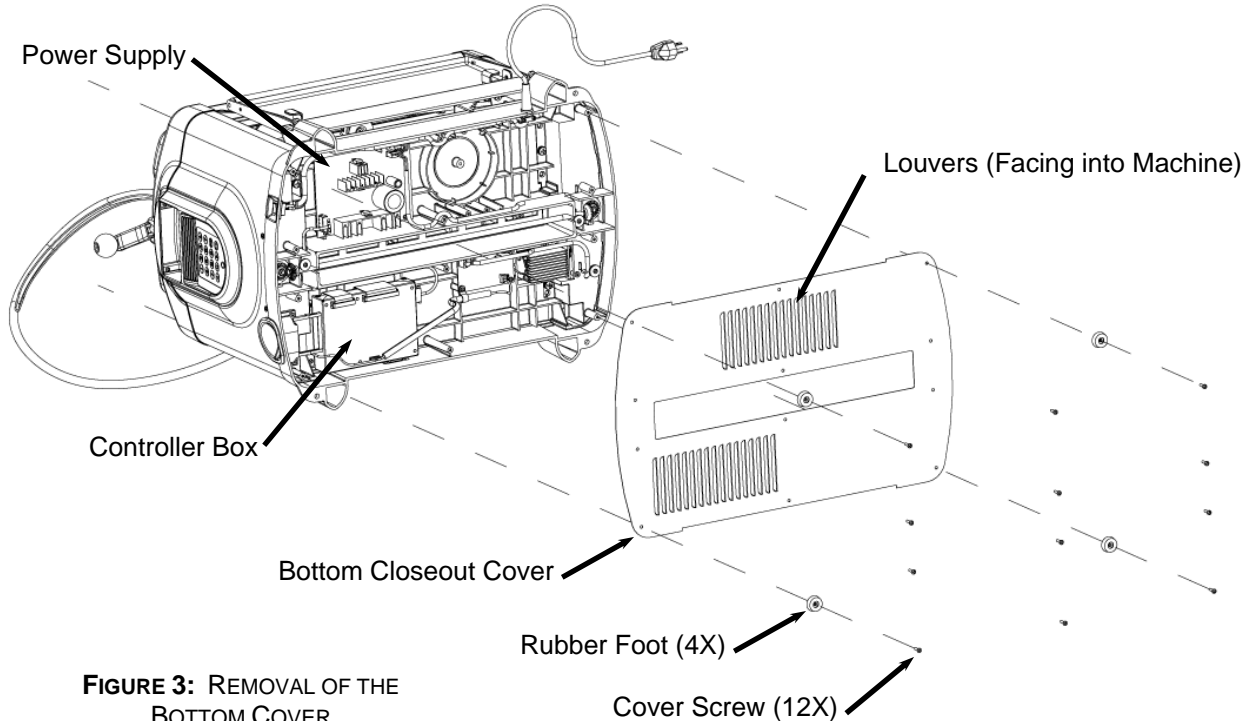

FIGURE 3: REMOVAL OF THE BOTTOM COVER
1. **Replace the bottom cover.** Replace the metal cover with the louvers pointing into the machine (see Figure 3). Insert and tighten the 12 screws. The four rubber feet are placed at the corners of the machine.